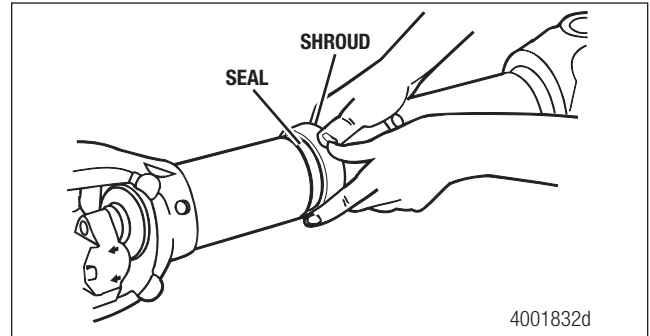

Figure 5.47
8. Snap the shroud over the seal. Figure 5.47.